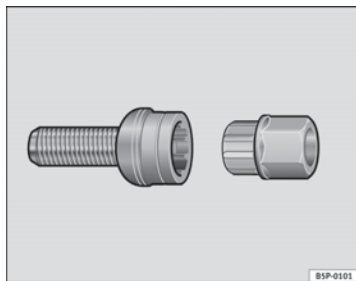

Fig. 199 Anti-theft wheel bolt
- Insert the adapter onto the wheel bolt and push it on as far as it will go ⇒ **fig. 199**.